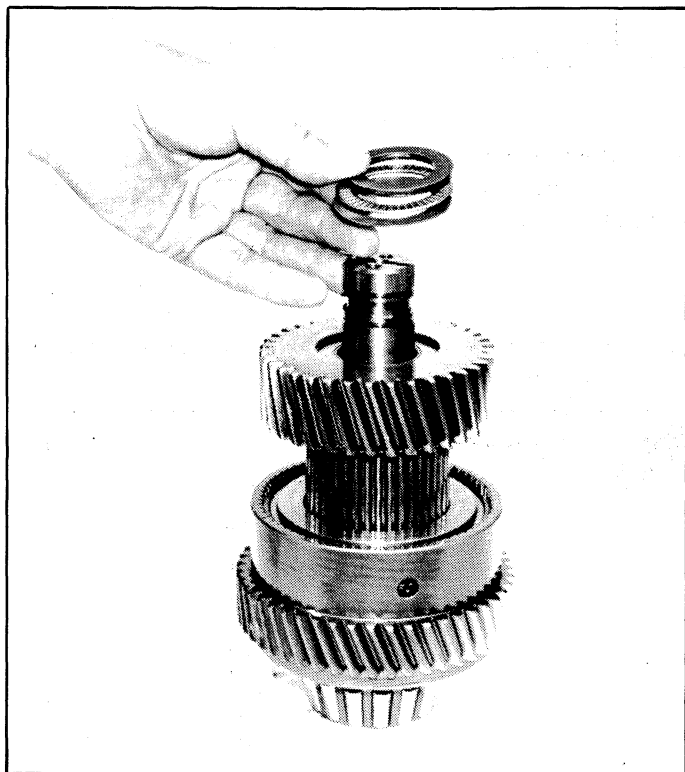

Figure 8-2. Removing or Installing the Rear Thrust Bearing, Spacer and Washer from the Reverse Clutch Shaft.
4. Lift clutch hub and pinion assembly (Figure 12-3, 15) and remove steel thrust washers (18 and 20) and needle thrust bearing (19). See Figure 8-2.
10. Install steel thrust washer (Figure 12-3, 18), needle thrust bearing (19), and steel thrust washer (20), in that order. See Figure 8-2.